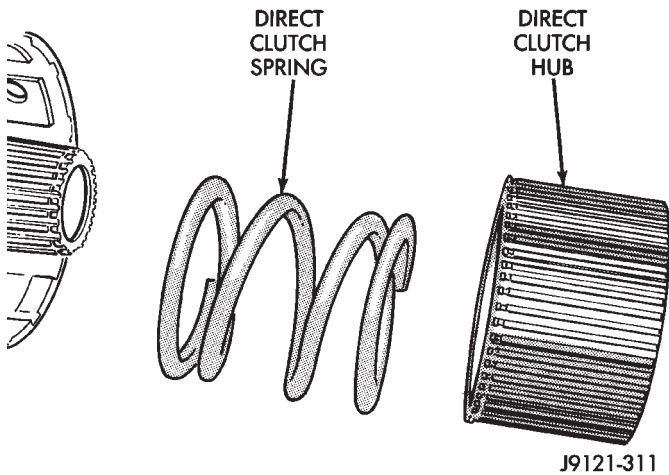

Fig. 25 Direct Clutch Hub And Spring Removal
- (15) Remove direct clutch hub and spring (Fig. 25).